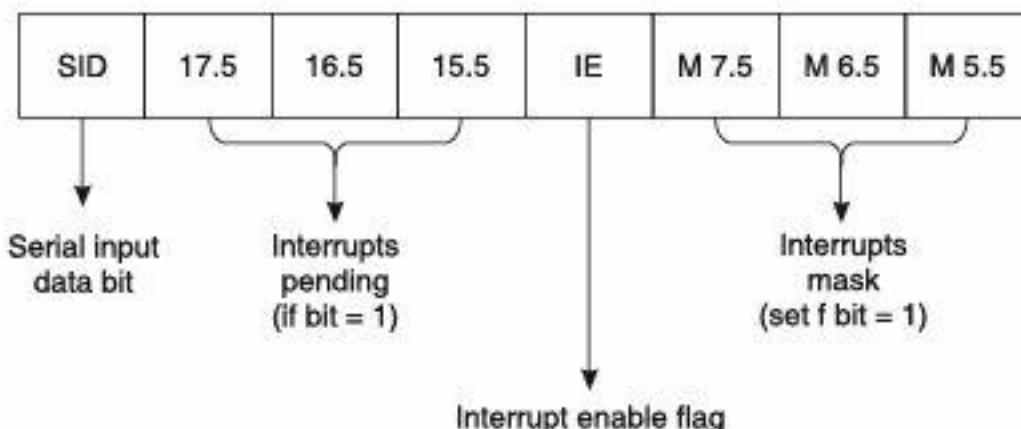

Fig. A1 The RIM Instruction Layout in the Accumulator
**Description:** The instruction is used to both read in the status of interrupts 7.5, 6.5 and 5.5 as well as to read in the serial input data bit. An 8-bit word is read in and stored in the accumulator. The layout of that word is shown in Fig. A1.